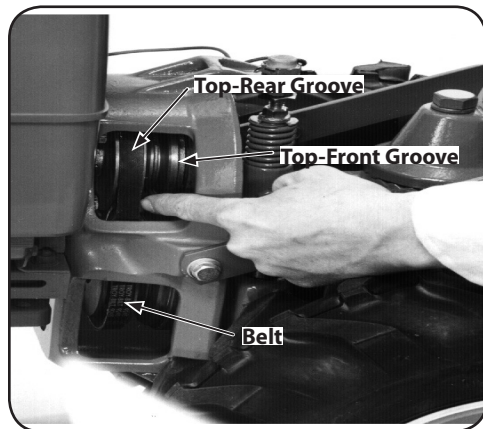

Figure 4-9
5. Working from the left side of the tiller, work the belt as much as possible onto the top-front engine pulley groove. See Figure 4-9.